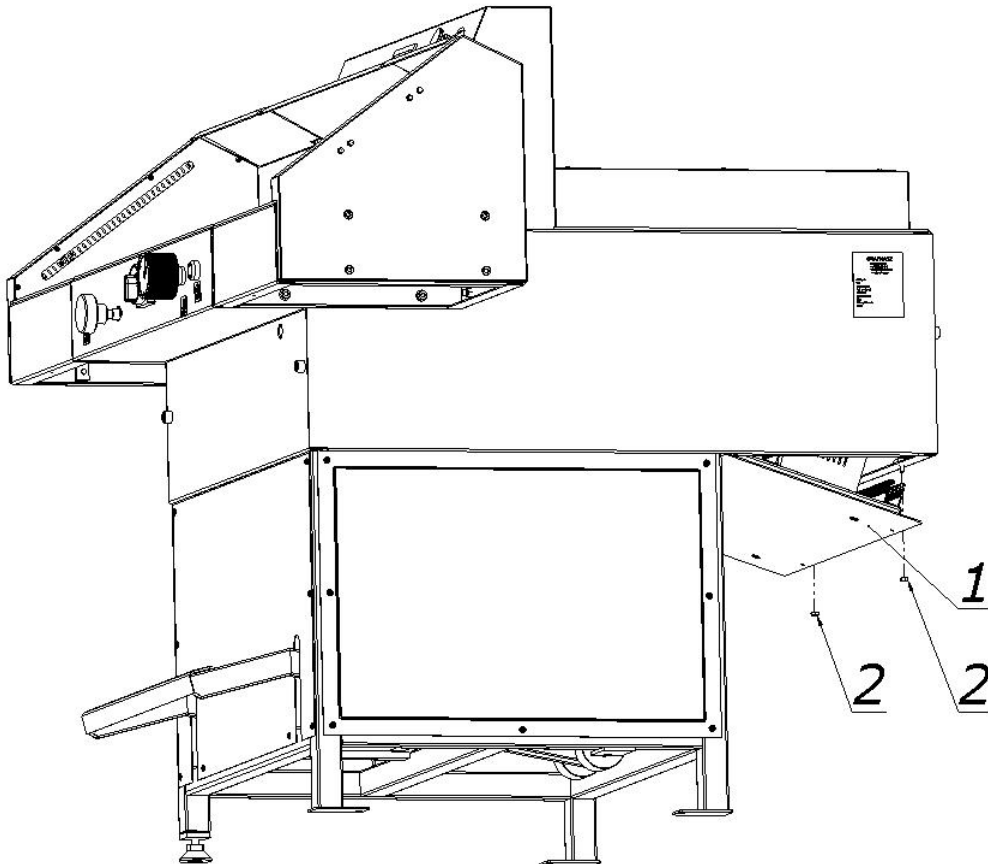

Figure 13 Location of electrical apparatus
1. Hinged housing of electrical apparatus (Fig. 13)
2. Nuts fixing the housing (Fig. 13)